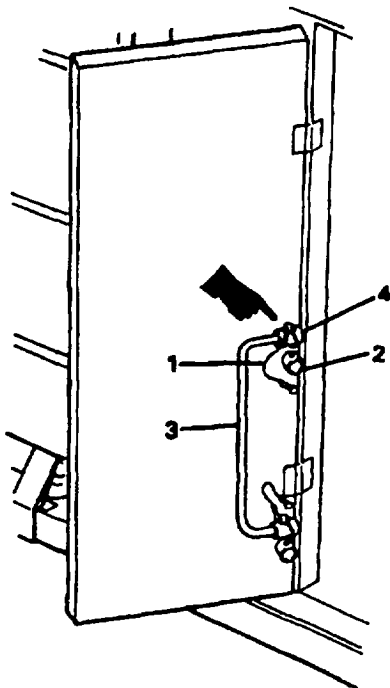

Figure 2-66.1. Handrail Storage
- (47) Position strap #3 or strap #12, already in place, over both storage tanks (55), and distribution pump (59) and attach and tighten strap to floor hook in front of the doorway.
- (48) Place the empty 5-gallon jug (not illustrated) on the top rear of the polyelectrolyte and sequestrant tanks.
- (49) Close and secure door (product side).
- (50) Put handrail on raw water side of the ISO shelter door into position for movement as follows:
- (a) Remove pins (1, Figure 2-66.1) from brackets (2).
- (b) Pull out handrail (3) and replace so that it is flush with the door.
- (c) Replace pin (1) in brackets (4).